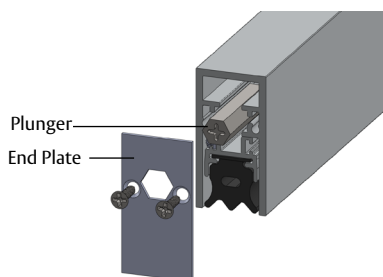

Figure 5
4. On the plunger side, with the “This Side In” sticker towards the ADB, align the end plate’s hexagonal hole with the plunger and install using the end plate screws as shown in Figure 5